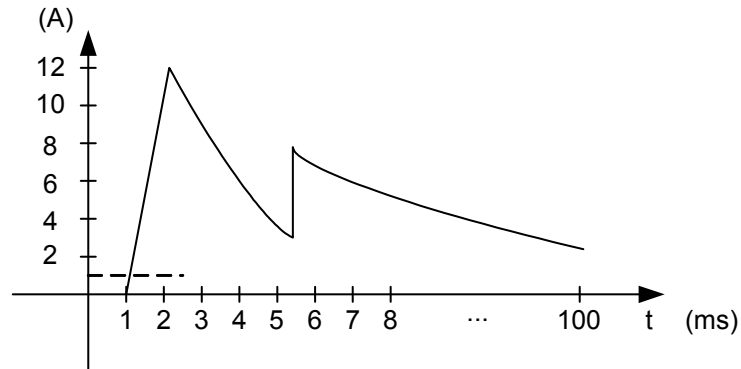

Figure 4-38 Measuring Inrush Current (2)
Users can use the following setting to measure the Inrush current (2) in Figure 4-38.
From Figure 4-38 it can tell that the current exceeds the trigger current (1A) around 1.1ms and after delayed for 3ms second, the 66202 Power Meter starts to measure the Inrush current. From the current curve it can see that the maximum current has been exceeded so the maximum Inrush current can be measured is 8A approximately.